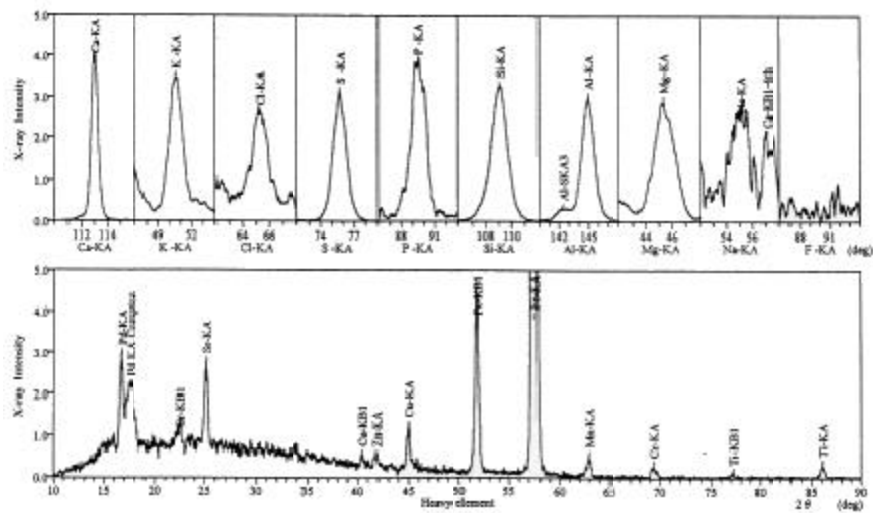

Fig. 4. Qualitative analysis chart of cement. (Sample: Cement NIST 1880)
- (4) Fig. 4 shows a qualitative analysis chart of cement. Since the ZSXmini is a scanning analyzer, elements contained in an unknown sample can be detected by conducting a total qualitative analysis.